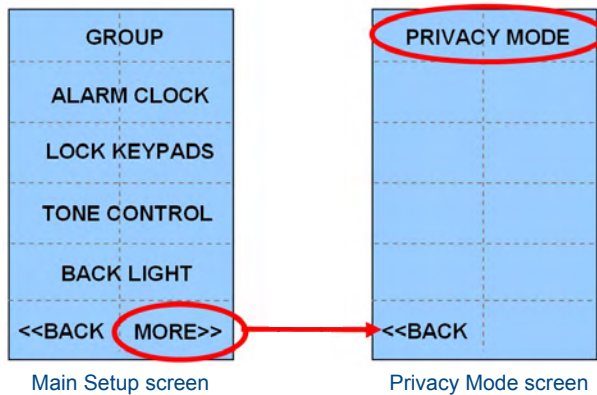

FIG. 9 Privacy Mode screen
1. Select **MORE>>** in the Setup Main screen (FIG. 9).